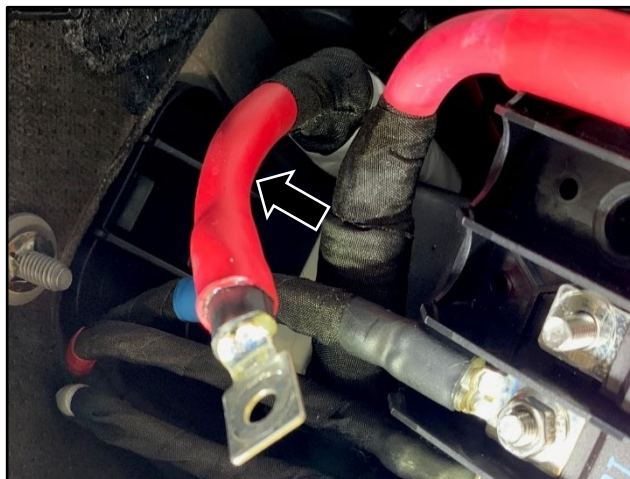

Figure 8
2. Use a heat gun to apply heat to the heat-shrink until the shrink forms a seal around the cable (refer to Figure 8).